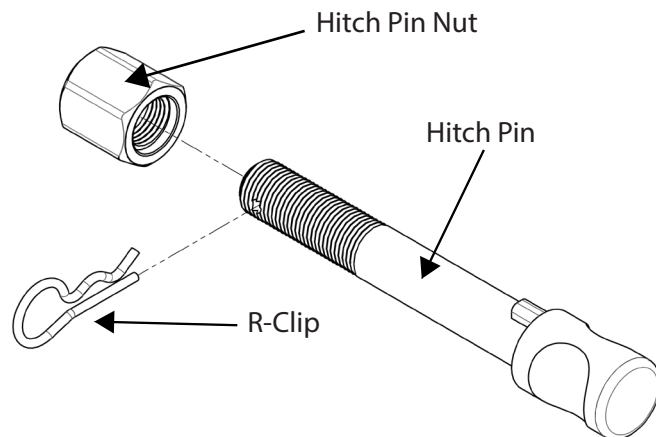

Fig 1. Silent Anti-Rattle Hitch Pin assembly
5. 1 x Torx head screw under plastic covers on each side of tailgate opening see fig 1.
Install HITCH PIN R CLIP through the hole on the HITCH PIN (Fig. 1).